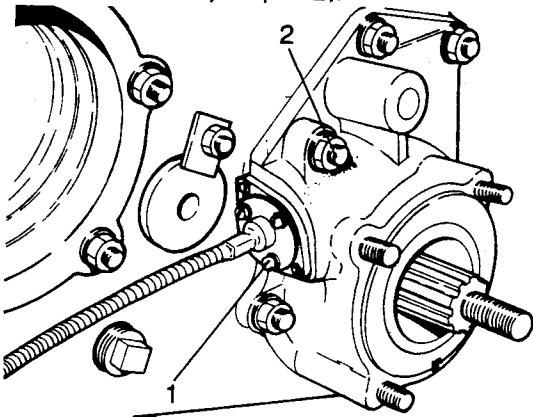

Fig H1.13
- (3) Refer to Fig H1.13. Remove the fixing of the speedometer cable plate (1) and disconnect it from the gearbox.
- (4) Remove the fixing from the speedometer cover (2).